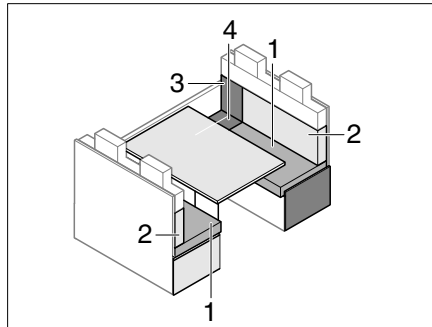

Fig. 206 Prior to conversion
- Remove the back cushion (Fig. 206,2) and lay it to the side.